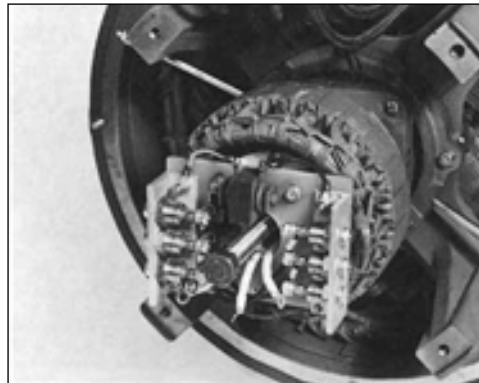
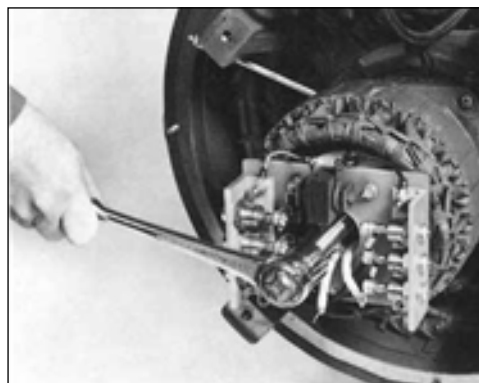

Figure 6-12
Figure 6-13
3. Use a six inch, UNF capscrew for a puller (see section 9). The hole that the mounting bolt goes through is threaded. Screw the puller bolt into the hole and it will push against the end of the shaft (figure 6-12). Carefully feed the main rotor leads through the hole as the exciter armature is removed (figure 6-13).